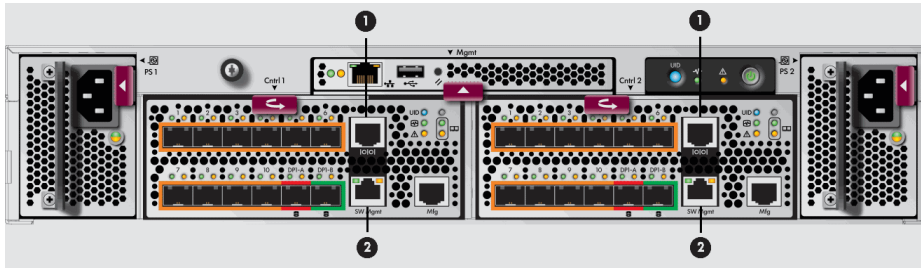

Figure 16 HSV300-S rear view
If needed, you can directly connect to the switch using the console port (2, Figure 16) and the provided console cable (manufacturing part number 259992-001). You may need a USB adapter for this cable if your laptop does not have a serial port.
2. Connect the Ethernet port (2, Figure 16) of the embedded switch to the laptop.
5. Remove the Ethernet cable from the first switch and connect the cable to the Ethernet port (2, Figure 16) of the other embedded switch. Browse to **http://10.77.77.78** for the Controller 2 switch and repeat step 4.